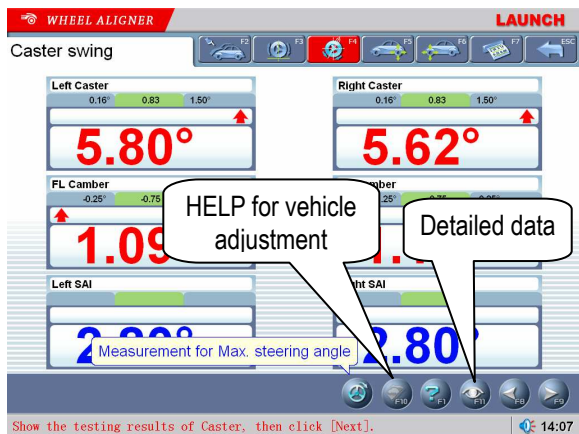

Fig.4.12
4. After test finished, please center the steering wheel. The system will automatically return to the next page to check the measurement result. The interface is as shown in Fig.4.12.